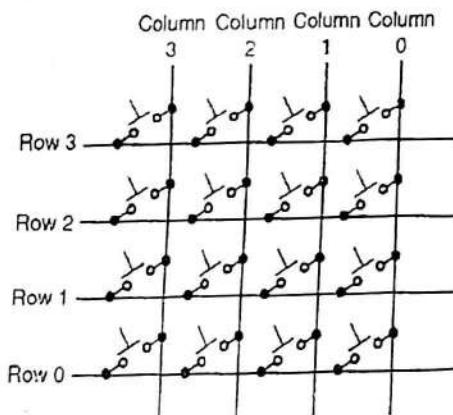

Fig. 7.2.3
- Fig. 7.2.3 shows 16 keys arranged in 4 rows and 4 columns. No connection is there, when the keys are open. If a key is pressed then there is connection between corresponding rows and columns. Such a matrix requires eight lines to complete the connections.